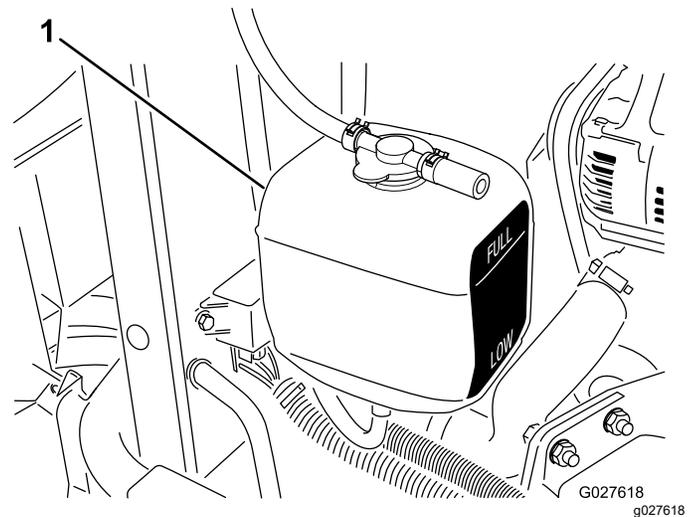

Figure 73
3. Check the coolant level in the expansion tank (Figure 73).